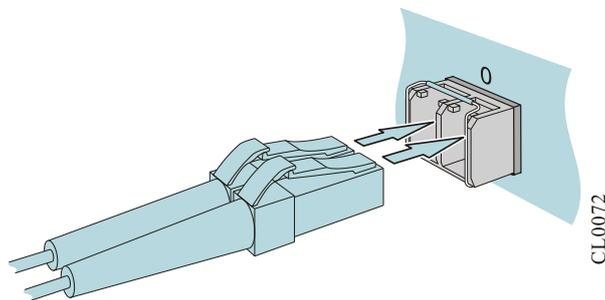

FIGURE 5-8 CONNECT SFP TO FIBER
Step 3: Fit the removed SFP module with the dust cap and put it in the anti-static bag or packing box. The diagram of installing the dust cap for the SFP module is as shown in Figure 5-8.
Step 6: Insert the fibers into the SFP ports in order. The diagram of connecting the SFP to the fiber is as shown in Figure 5-8.